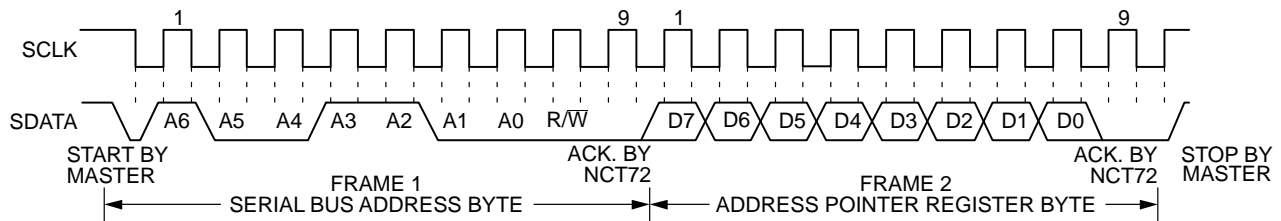

Figure 16. Writing to the Address Pointer Register Only
- If the address pointer register value of the NCT72 is unknown or not the desired value, it is first necessary to set it to the correct value before data can be read from the desired data register. This is done by writing to the NCT72 as before, but only the data byte containing the register read address is sent, because data is not to be written to the register see Figure 16.
- If the address pointer register is known to be at the desired address, data can be read from the corresponding data register without first writing to the address pointer register and the bus transaction shown in Figure 16 can be omitted.